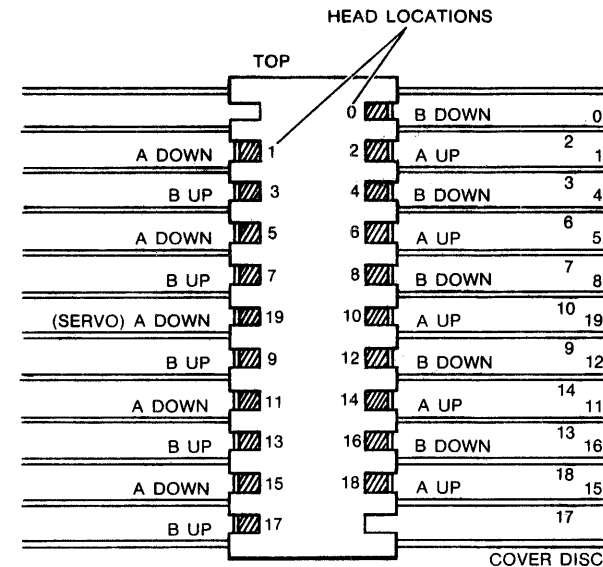

FIGURE 4-6. T-BLOCK, VIEWED FROM LINEAR MOTOR
7. Determine whether the head is an 'A' or 'B' type head by referring to Figure 4-6.
- a. An 'A' or 'B' type head assembly must be installed into an appropriate position (see Figure 4-6).
4. Select head to be aligned. If more than one head or a full complement of heads is to be aligned, the alignment order should be as follows: Align heads 9 through 18, incrementing one head at a time, then heads 8 through 0, decrementing one head at a time. See Figure 4-6 for head numbering scheme.